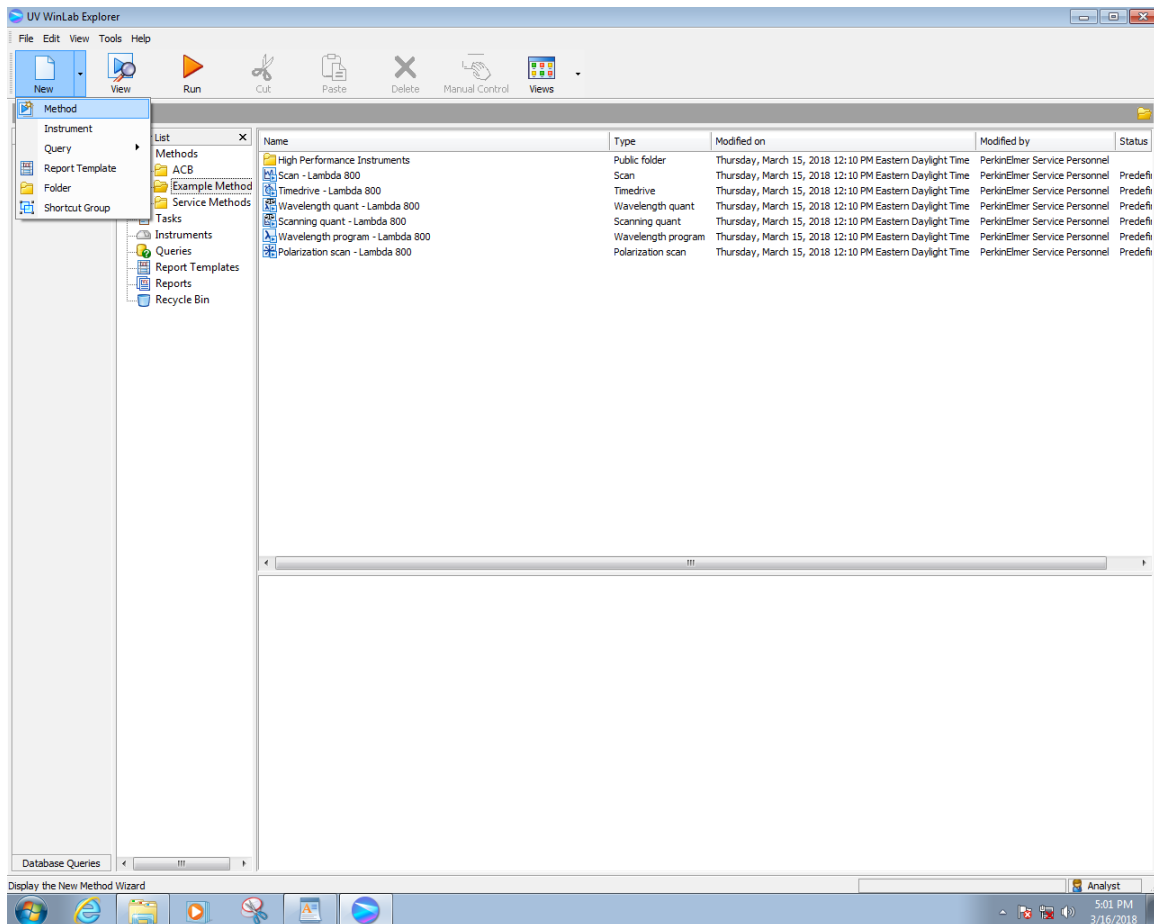

Figure 7: Creating new method.
- Click File -> New -> Method (Figure 7)